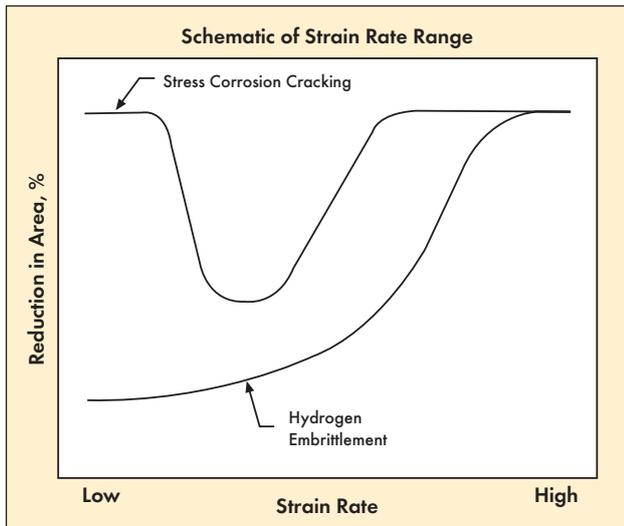

Figure 1.6.3.5: ASTM G129: Effect of SSR testing on the Reduction in Area for a HE specimen⁽²⁾.
Figure 1.6.3.1: Macro-photographs of the failure by HE initiated at a "fish eye" of a 360 mm shaft manufactured from a low alloy Cr-Ni-Mo-V quenched and tempered steel⁽⁹⁾.
Figure 1.6.3.2: SEM fractographs of both cleavage and dimple fracture areas from the same freshly impact broken sample of a quenched and tempered low alloy Cr-Ni-Mo-V steel that was known to contain Hydrogen in excessive quantities. The white arrows show a few of the large number of secondary microcracks⁽⁹⁾.
Figure 1.6.3.3: Slow SSR tested fractographs of the same 360mm shaft as in Figure 1.6.3.2 above. Note the "patches" of cleavage fracture areas amidst dimple fractured areas in the center of both figures with both of them showing clear "tear ridges"⁽¹⁰⁾ seen as the fine lines on the cleavage planes⁽⁹⁾.
Compare the "clean" cleavage planes in *Figure 1.6.3.2* of a fast fractured specimen with the cleavage planes full of "tear ridges" of a SSR tested one in *Figure 1.6.3.3*, both from the same 360mm Cr - Ni - Mo - V shaft.
4. Finally, SSR testing will also reveal a low Z (Reduction in Area) if compared to a normal tensile tested sample, as shown in *Figure 1.6.3.5* taken from the Standard for slow strain rate testing for HE susceptibility: ASTM G129⁽²⁾.